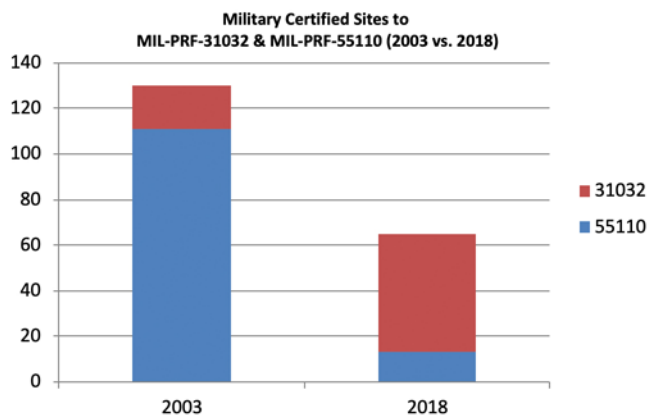

Figure 1: Distribution of worldwide PCB fabrication sites certified to MIL-PRF-31032 and MIL-PRF-55110 (2003 vs. 2018).
Fast forward 15 years to 2018 and we have 52 company locations certified to the 31032 Qualified Manufacturers List (QML) plus 120 companies still on the 55110 Qualified Products List (QPL). Comparing the total in 2018 (52 + 120 = 172) versus 2003 (19 + 111 = 130), there appears to be a 32% increase in the total (Figure 1).
PRF-55110 QPL. Assuming 80% (16) were on both, the total companies in 2003 would have been 3 + 111 = 114 instead of 130. If that is the case, the decline from 2003 to 2018 is from 114 to 65—a 43% decline. Whatever the exact number, the data indicates the decline is likely between 43 and 50% (Figure 1).